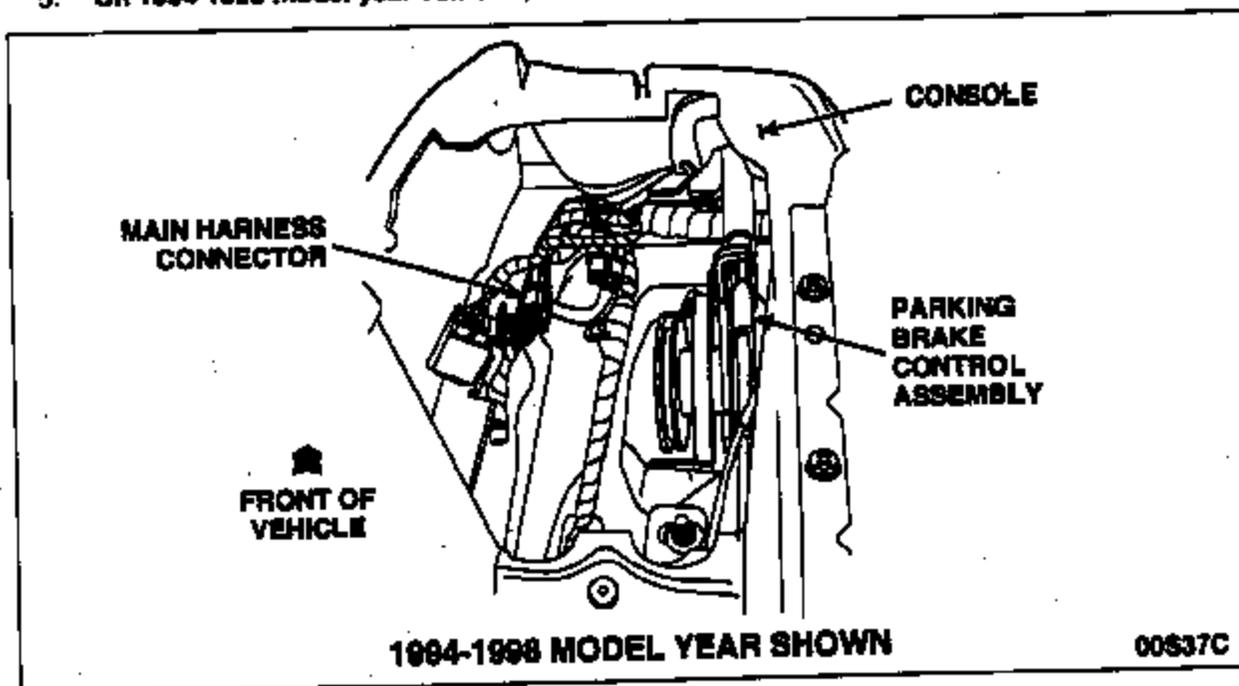

FIGURE 3
5. On 1994-1998 model year vehicles, disconnect the main harness connector. See Figure 3.